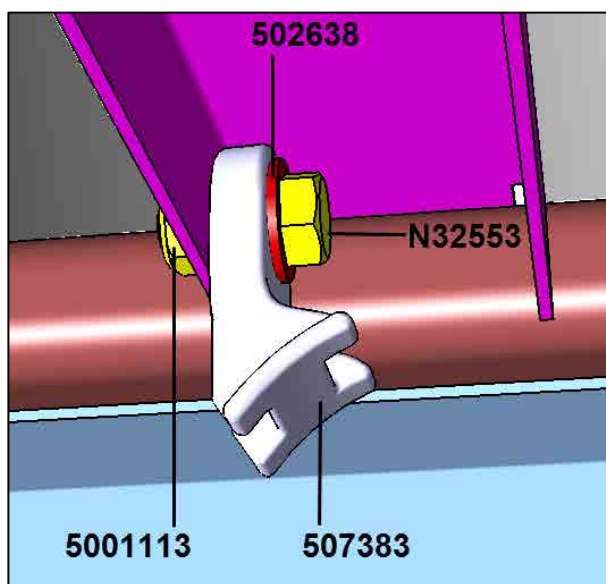

FIGURE 14 SCREW JOINT
- B6. SCREWING:** If riveting is not possible, the supports may be installed with #N32553 screws, #502638 washers and #5001113 nylon jam nuts. (Fig. 14)